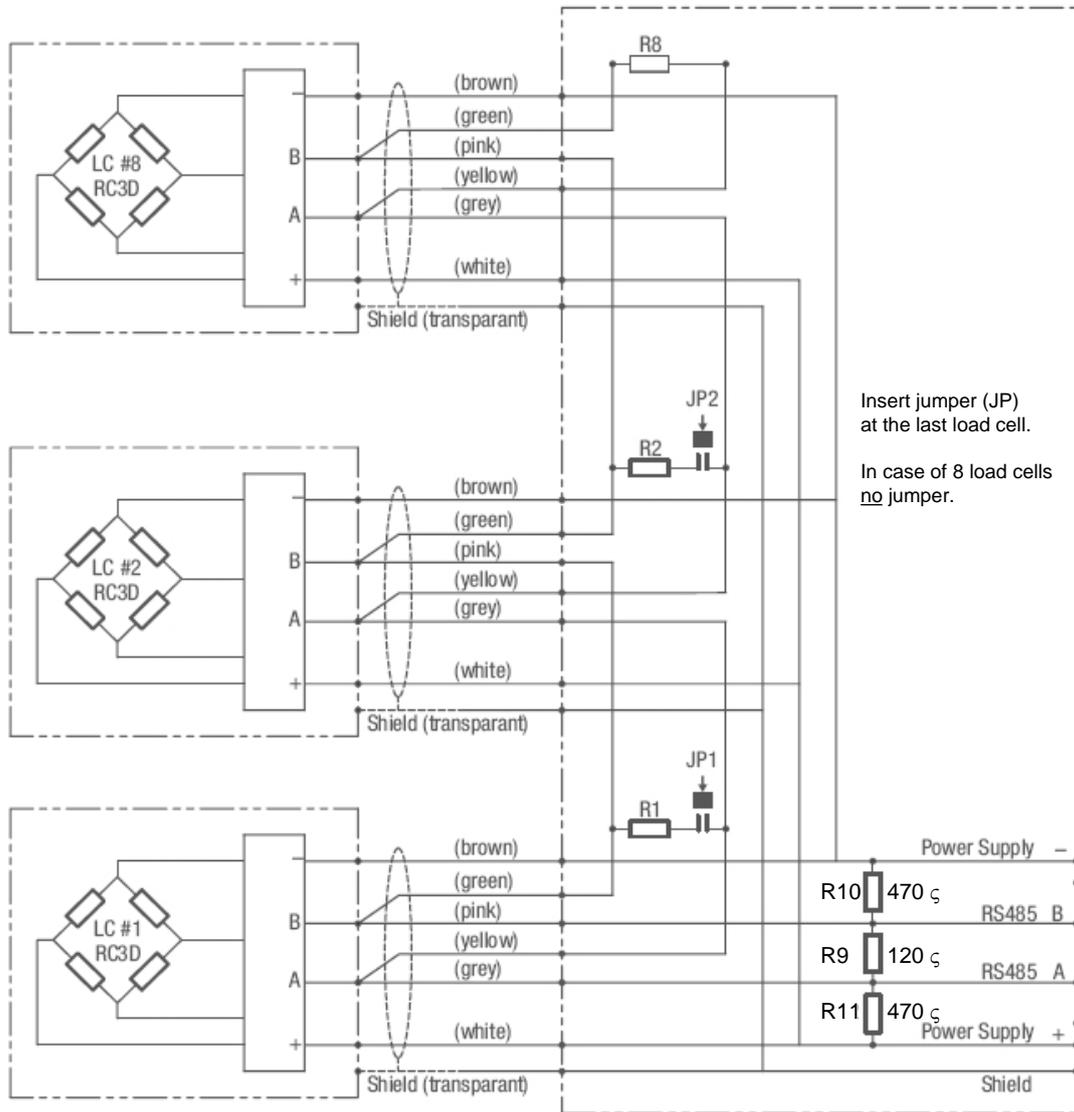

Figure 2: Wiring
3. Verify the correct position of jumper JP (see figure 2).